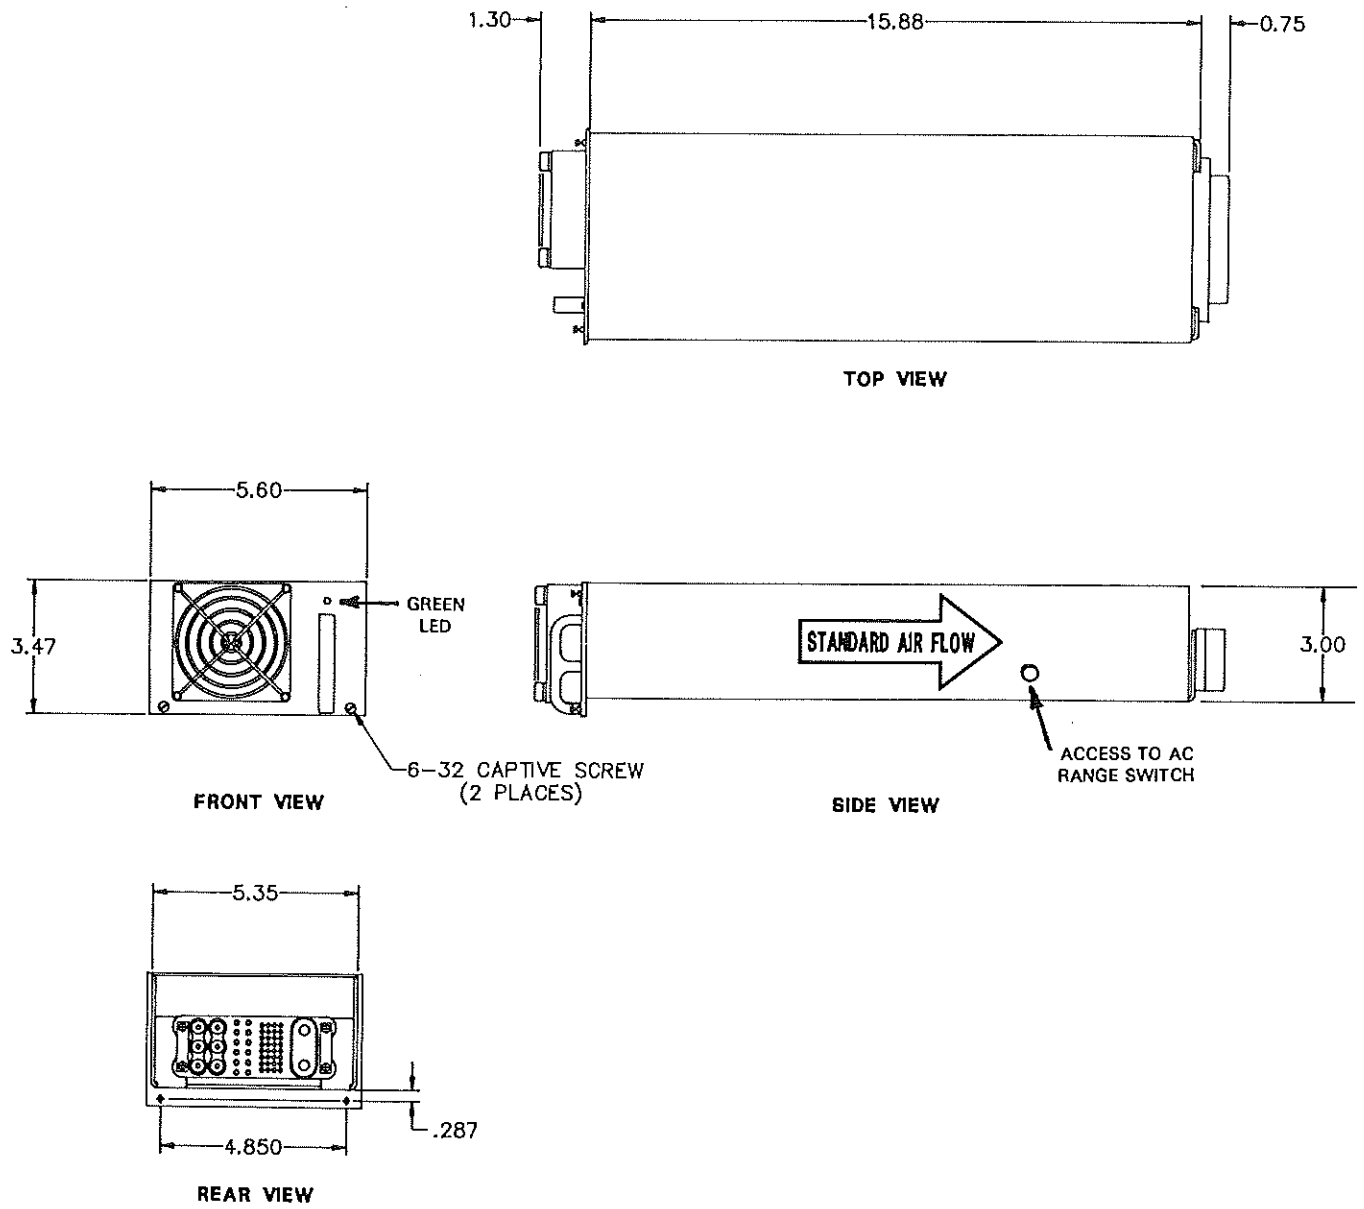

Figure 6. Outline Drawings for TP Series Hot-Plug Power Module
- 6.3 Figure 6 is an outline drawing of a single hot-plug power module. The module has a cooling fan on the front panel together with two captive thumbscrews for securing the modules in the chassis. Also on the front panel is a green LED power good indicator. At the rear is the high-reliability hot-plug connector that plugs into the system backplane.
10.1 **Input Voltage.** The TP Series Hot-Plug Modules operate on standard 120VAC (90 to 132VAC) or 220-240VAC (180 to 264VAC) input voltages. An autorange option (Option A) is available which automatically sets the power module input for the voltage range used. The connections for line, neutral and ground are made to P3. A switch accessible on the side of each case permits the user to set the AC input range to the desired one. See Fig. 6. **Note that all switches must be set to the proper positions before plugging the units into AC power. Do not change the position of the line select switches while power is applied.** There is also a DC input option (Option Q) permitting 42 to 60VDC input voltage. Further details on this should be obtained from the factory.